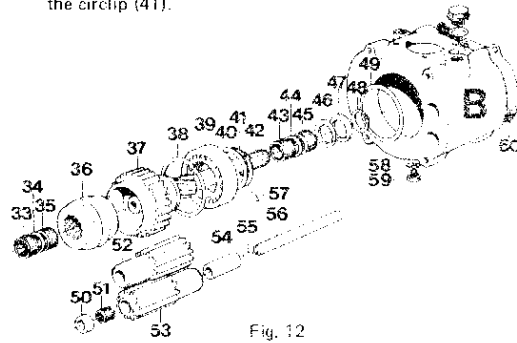

Fig. 12
1. Fit the circlip (38, Fig. 12) in the housing.
2. Press the bearing (39) into the housing with drift 884500.
4. Press the gear wheel (37) in the bearing (39) with drift 884263. NOTE! Counterhold 884488 must be placed against the bearing inner race. Make sure when doing so that the gear wheel teeth mesh with the teeth of the planetary gear.
5. Shims (40) are available in two thicknesses: 0.05 mm and 0.50 mm (0.002 and 0.02"). Add a sufficient number of shims to remove all clearance. Then remove a 0.05 mm (0.002") shim. Lock the gear wheel with the circlip (41).
1. Knock the guide pin (55, Fig. 12) into the front housing so far that it projects about 2 mm (0.08") above the line separating the front housing from the intermediate housing.
### Assembling the front housing and intermediate housing MSB (Figs. 12 and 14)
1. Screw in the oil drain plug (59, Fig. 12). NOTE! Use the aluminium washer.